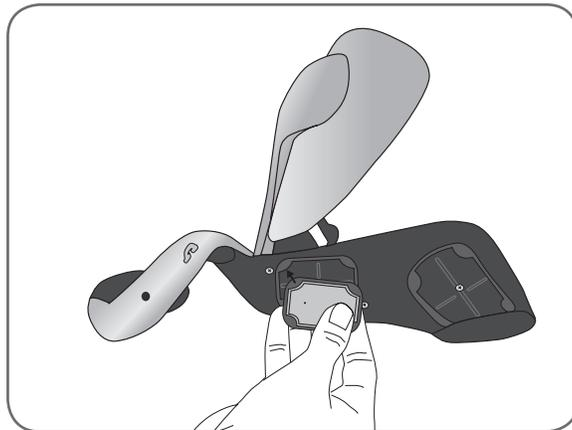

Figure 6-23: Inserting the #5 cloth electrode into the #5 electrode base.
5. For cloth electrodes #1, 2, 4, and 5, face the white dot on the cloth electrode toward the electrode base. Insert the corners of the cloth electrode into the electrode base. See Figure 6-23.